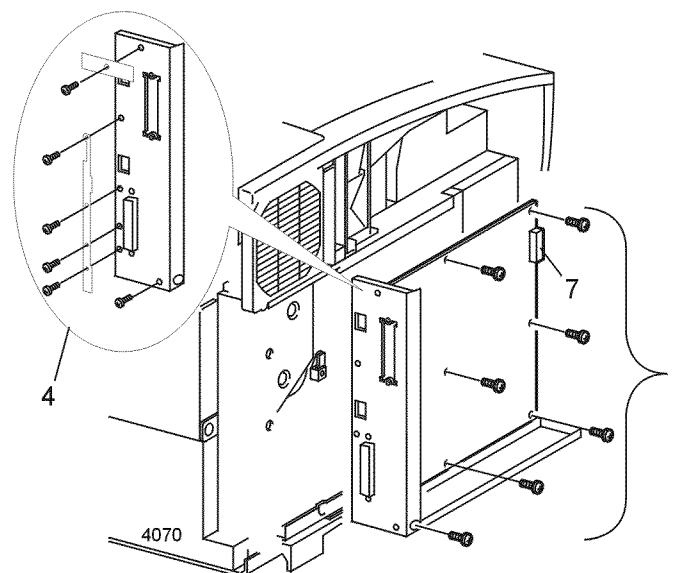

Figure 2 System Controller PWB Assembly
3. Remove the six screws and the RF Shields that secure the rear of the System Controller PWB Assembly to the printer (Figure 2).
5. Remove the seven screws that secure the System Controller PWB to the printer (Figure 2).
6. Slide the System Controller PWB toward the rear of the printer to disconnect P/J14 from the Print Engine Controller PWB (Figure 2).